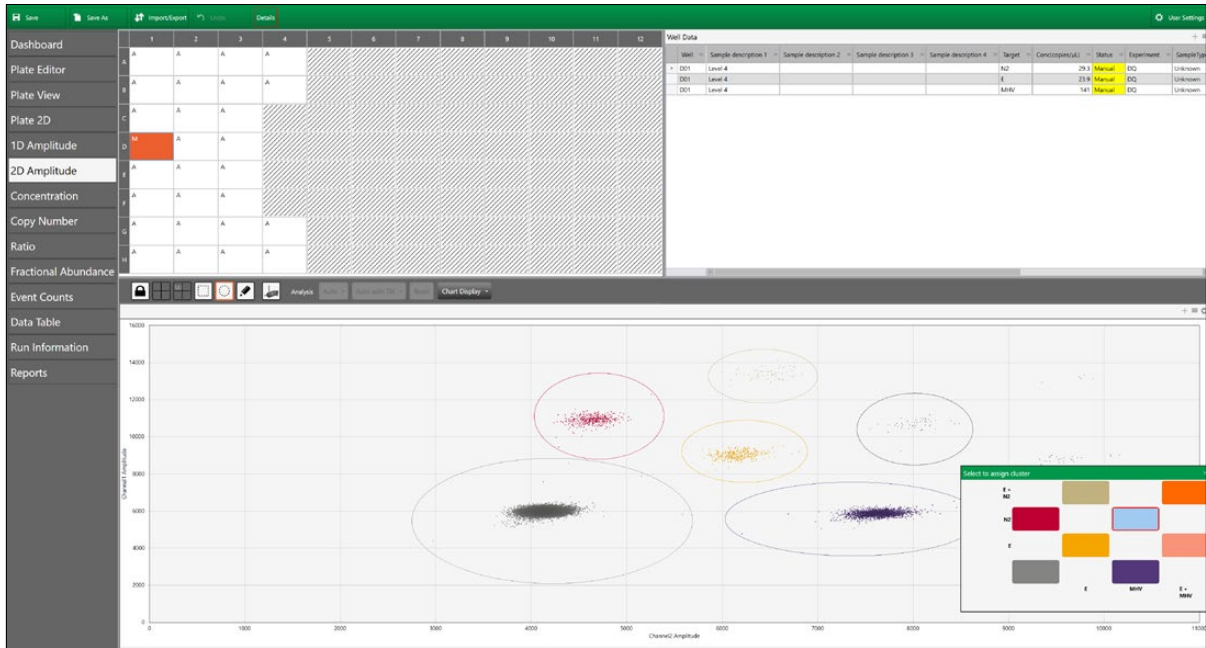

Fig. 17. E and MHV double-positive cluster.
- Above the MHV single-positive cluster, there is a double-positive cluster corresponding to droplets that are both **E** and **MHV** positive (Figure 17).